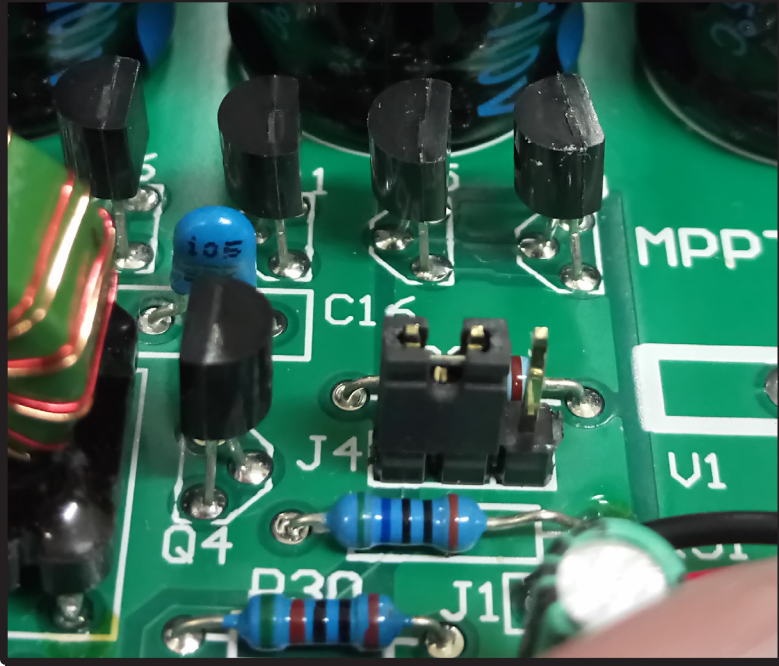

Figure 2 (Left): Vented Battery Setting
4. Move link on J4 to vented position or Remove link for Lithium batteries – see **Figures 2 ,3 ,4**.